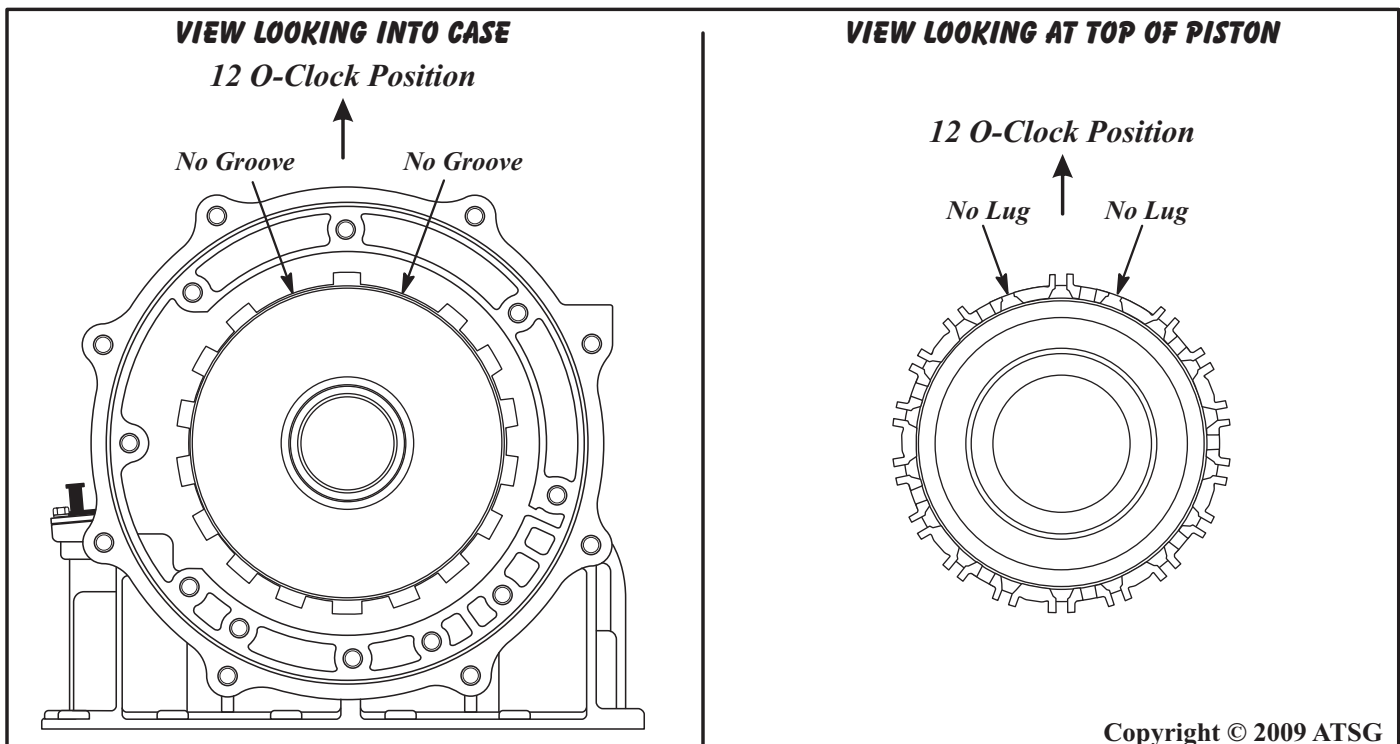

Figure 80
**CAUTION:** The forward brake clutch piston will go in the case in only one direction. The only "isolated" lug on the piston, must go to the 12-o'clock position in the case, as shown in Figure 80.